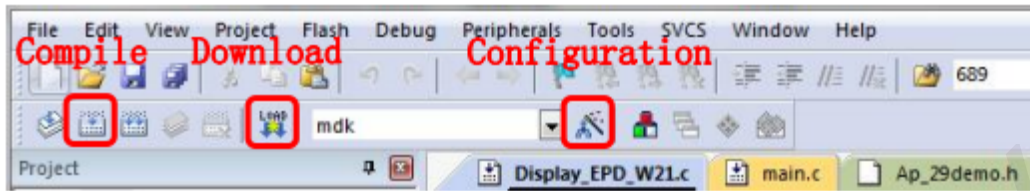
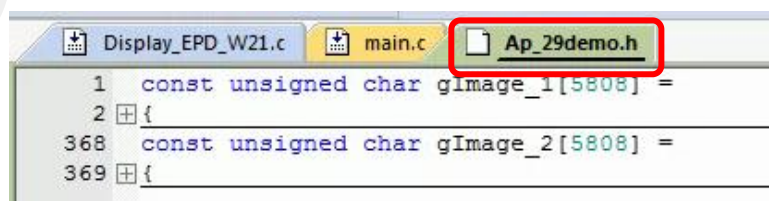

Figure 7 : Keil4 tool bar
Figure 9 :change the image data
3) The Keil4 toolbar is shown in Figure 7. Please click  at the first time using the simulator and a box like Figure 1 2 will pop up. Choose the simulator model of yours in the "Debug" bar, and click "OK to confirm.
4)Click Ap\_29demo.h in Figure 9 to change the image data that needs to be displayed(the image data needs to be achieved by image2lcd ).
5)Click  in the toolbar in Figure 7 to compile.
6)Click  in the toolbar in Figure 7 to download.
9) If you want to change a image, you need to use Keil4 to change the image data (Figure 9), compile it (Figure 7) to generate a new mdk.hex file, and then re-select the file to download it.